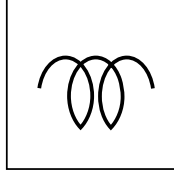

Figure 41. Pre-Heat Lamp
2. Depending on the temperature of the coolant (cold weather conditions), the pre-heat lamp (Figure 41) will light (**ON**) and remain on until the pre-heating cycle has been completed. After completion of the pre-heating cycle, the light will go **OFF** and the engine can be started